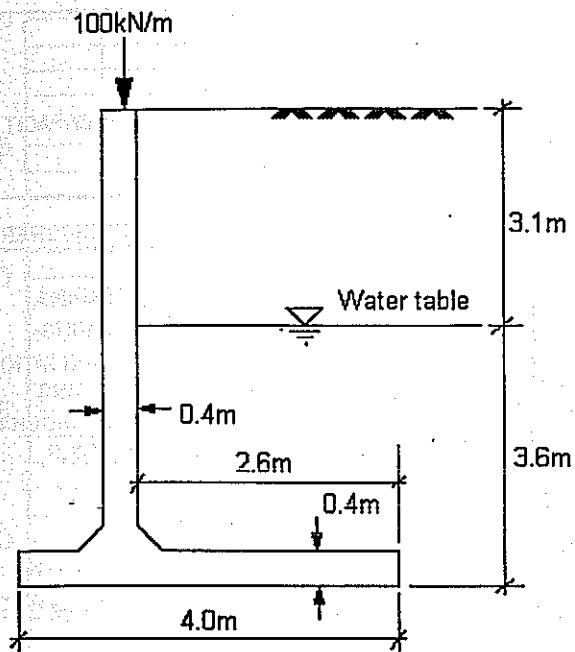

Figure Q4
4. Figure Q4 shows the details of a cantilever retaining wall. The shear strength parameters for the soil are $c' = 0$ and $\phi' = 35^\circ$. The saturated unit weight of soil is 18.5 kN/m^3 . The unit weight above the water table is 17.5 kN/m^3 . The unit weight of concrete is taken to be 23.6 kN/m^3 . If $\delta = 25^\circ$ on the base of the wall.